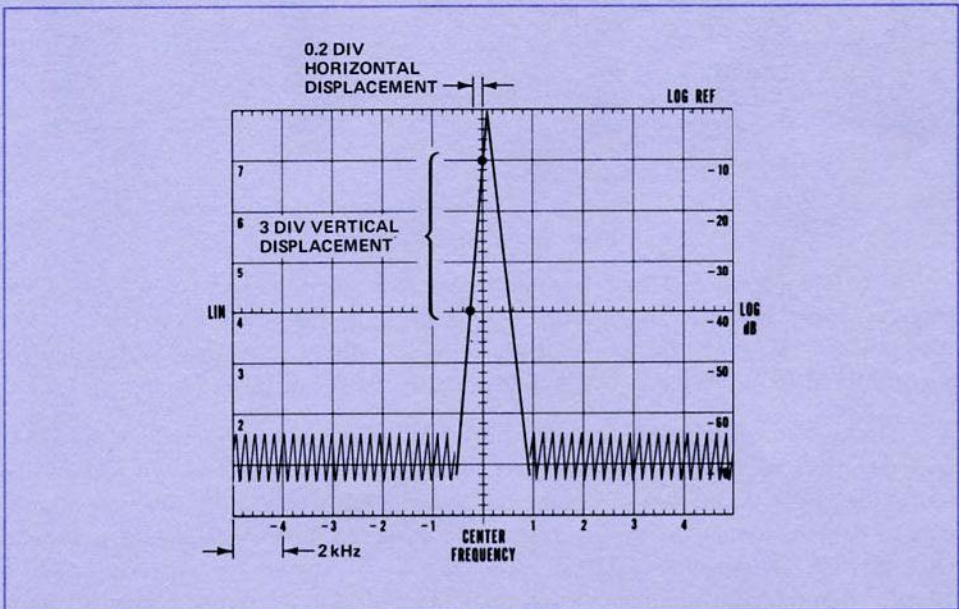

Figure 17. FM to AM Conversion.
2. Adjust the analyzer for linear display and tune so that the upward linear portion of the IF skirt intersects the frequency graticule line 1 division from the top as shown in Figure 17. Note where the skirt intersects the middle horizontal graticule line. From Figure 17 we see that a minor division horizontal displacement equals three major divisions vertical displacement. Since the horizontal displacement equals 400 Hz ( $0.2 \times 2$  kHz), each vertical division =  $\frac{400}{3}$  or 133 Hz.